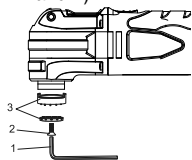

Figure 1
1. Install the plunge cutting saw blade for wood in the tool. (Figures 1 and 2)
1. Install the half-circle saw blade for wood and drywall in the tool. (Figures 1 and 2)
1. Install the sanding pad on the Oscillating Tool. (Figures 1 and 2)
1. Install the scraper blade on the Oscillating Tool. (Figures 1 and 2)